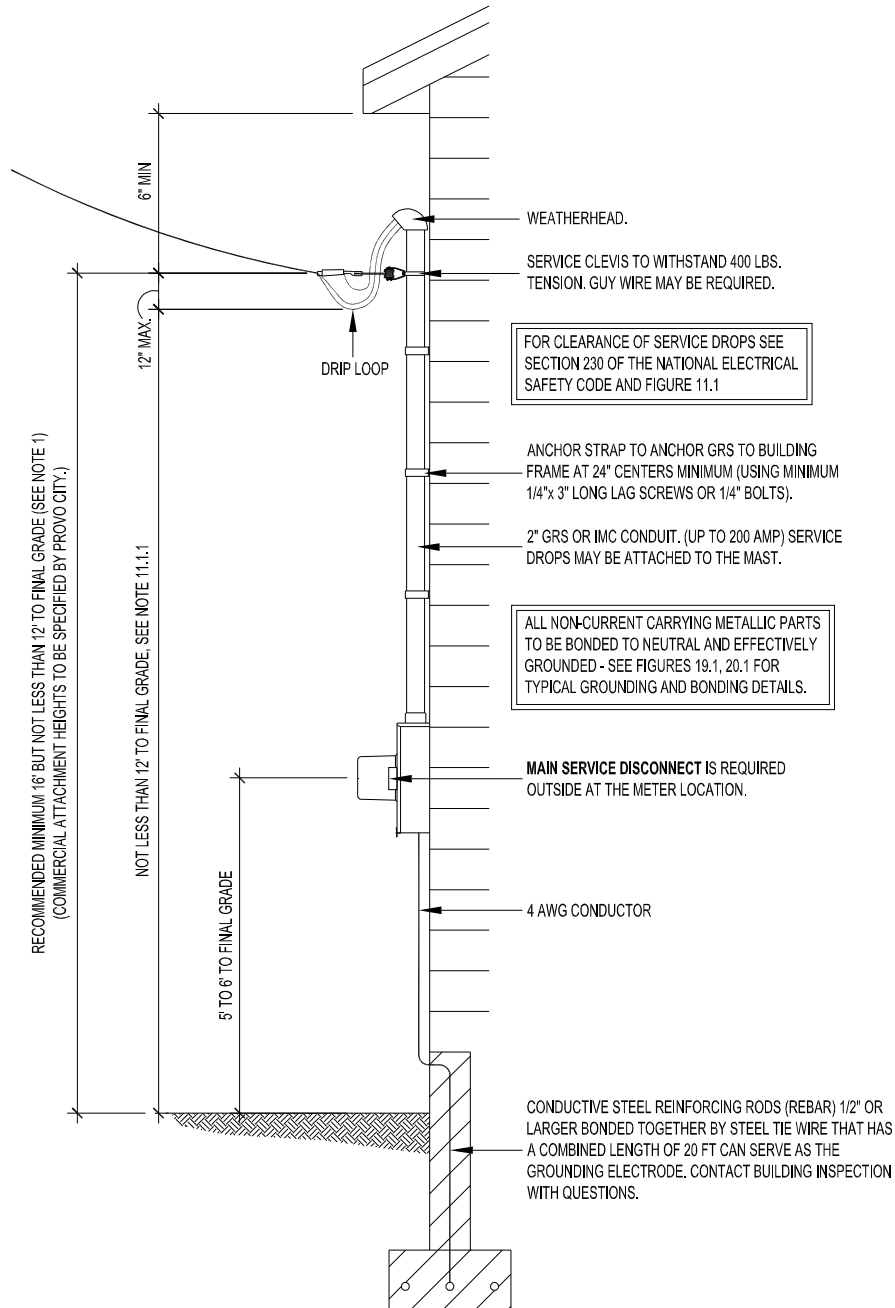

Figure 11.1 Under Eave Installation
- 10.1.2 If the service is crossing the roof for more than 6' horizontally in any direction, or more than 4' horizontally from the nearest edge of the roof, refer to NESC 234C3 and figure 11.1 for the appropriate clearance